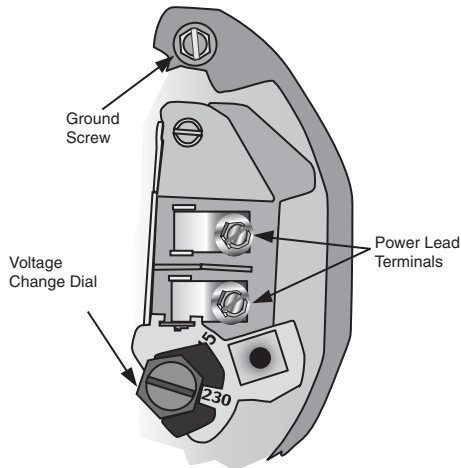

Figure 6 – Voltage set to 230 volts, Dial Type.
2. Remove trap cover and use low pressure air to blow accumulated water from the piping system. Use a pry bar or board to remove trap covers that have been overtightened or have taken a set and cannot be removed by hand. Lugs have been provided on the trap lid to use a lever or pry bar for loosening (see Figure 6).